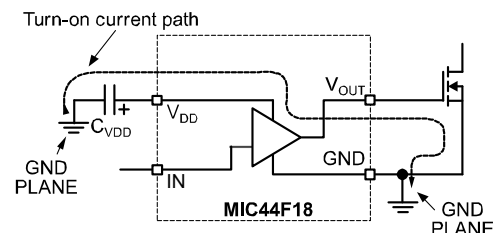

Figure 7. Critical Current Paths for High Driver Outputs
Figure 7 shows the critical current paths when the driver outputs go high and turn on the external MOSFETs. It also helps demonstrate the need for a low impedance ground plane. Charge needed to turn-on the MOSFET gates comes from the decoupling capacitors C_{VDD} . Current in the gate driver flows from C_{VDD} through the internal driver, into the MOSFET gate and out the source. The return connection back to the decoupling capacitor is made through the ground plane. Any inductance or resistance in the ground return path causes a voltage spike or ringing to appear on the source of the MOSFET. This voltage works against the gate drive voltage and can either slow down or turn off the MOSFET during the period when it should be turned on.
3. Trace out the high di/dt and dv/dt paths, as shown in Figures 7 and 8 and minimize etch length and loop area for these connections. Minimizing these parameters decreases the parasitic inductance and the radiated EMI generated by fast rise and fall times.